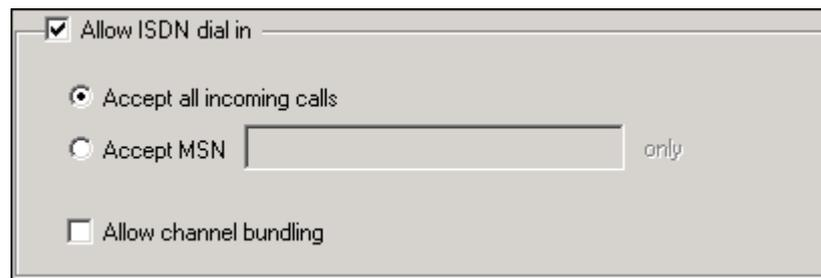

Fig. 13 *Accept all incoming calls* option field
2. Mark the checkbox **Allow ISDN dial in** (see "Fig. 13", page 28).